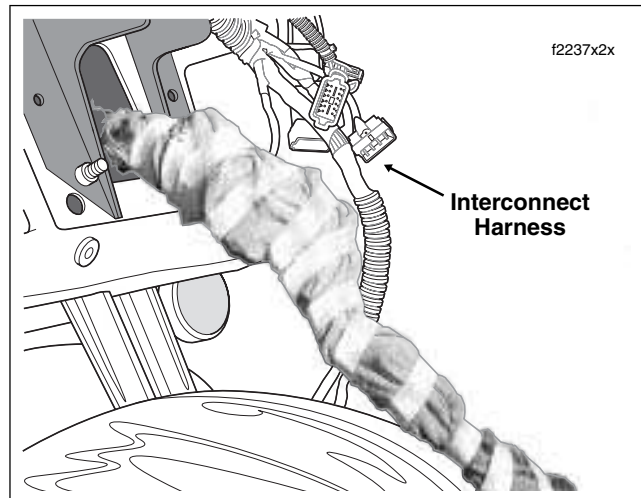

Figure 2-180. Wrap Main Harness in Shop Towels
- Capturing all connectors, tightly wrap clean shop towels around the main harness conduit, handlebar switch control conduit, radio ground wire and radio antenna cable, and secure with masking tape. See Figure 2-180.
5. Draw wire harnesses and conduit out tunnel of fairing bracket and pull as far forward as possible. Tightly wrap clean shop towels around radio ground, main harness and handlebar switch control conduit and connectors and secure with masking tape. See Figure 2-180.
10. Draw the harness bundle as far forward as possible, resting the end of the bundle on the front fender. See Figure 2-180.